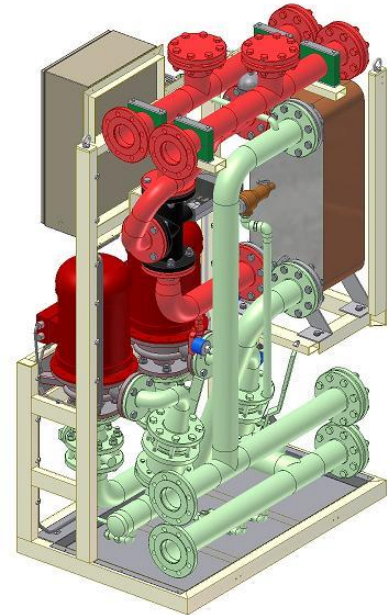

Figure 4.2-1
- Primary circuit, HXM300-PS01 (green colour in the Figure 4.2-1)
- Secondary circuit, HXM300-PS02 (red colour in the Figure 4.2-1)